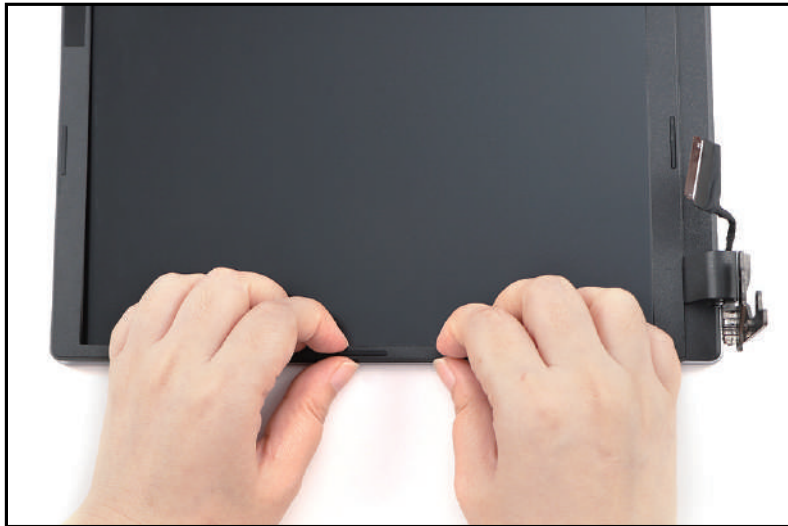

Figure 3-73. LCD Bezel Removal
3. Continue prying along the left side of the bezel (Figure 3-73).